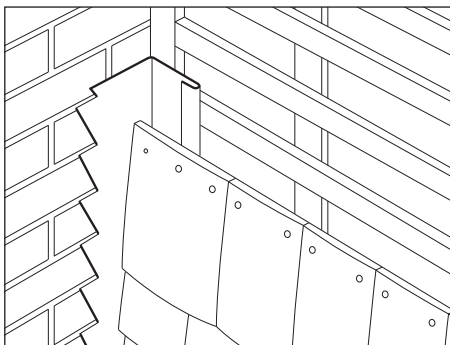

Fig. 28 – Abutment to wall, with flashing
- 3 Lead is taken around corner and top edge taken into brickwork mortar joints (Fig. 28).